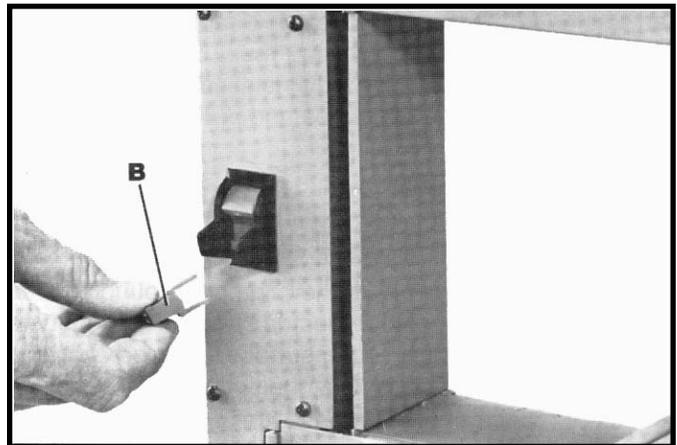

Fig. 16
We suggest that when the saw is not in use, the switch be locked in the "OFF" position. This can be done by grasping the switch toggle (B) Fig. 16, and pulling it out of the switch, as shown. With the switch toggle (B) removed, the switch will not operate. However, should the switch toggle be removed while the machine is running, the switch can be turned "OFF" once, but cannot be restarted without inserting the switch toggle (B).